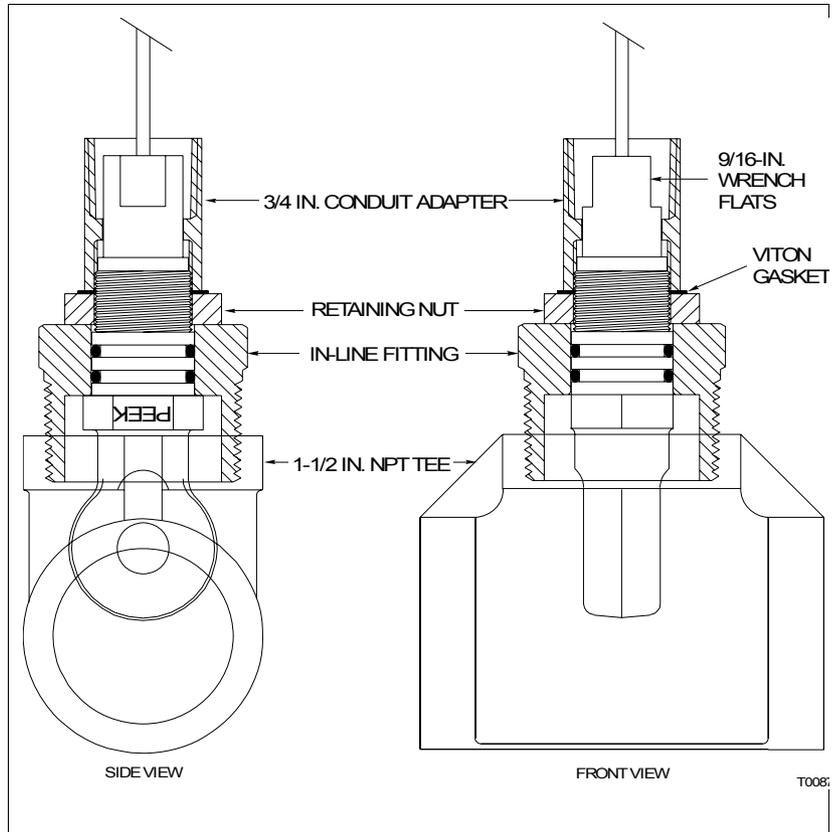

Figure PR2-2. In-Line Assembly in Pipe or Tank Fitting
5. Install the in-line fitting into the pipe or tank fitting using a two-inch open-end wrench to tighten the fitting (Fig. PR2-2).